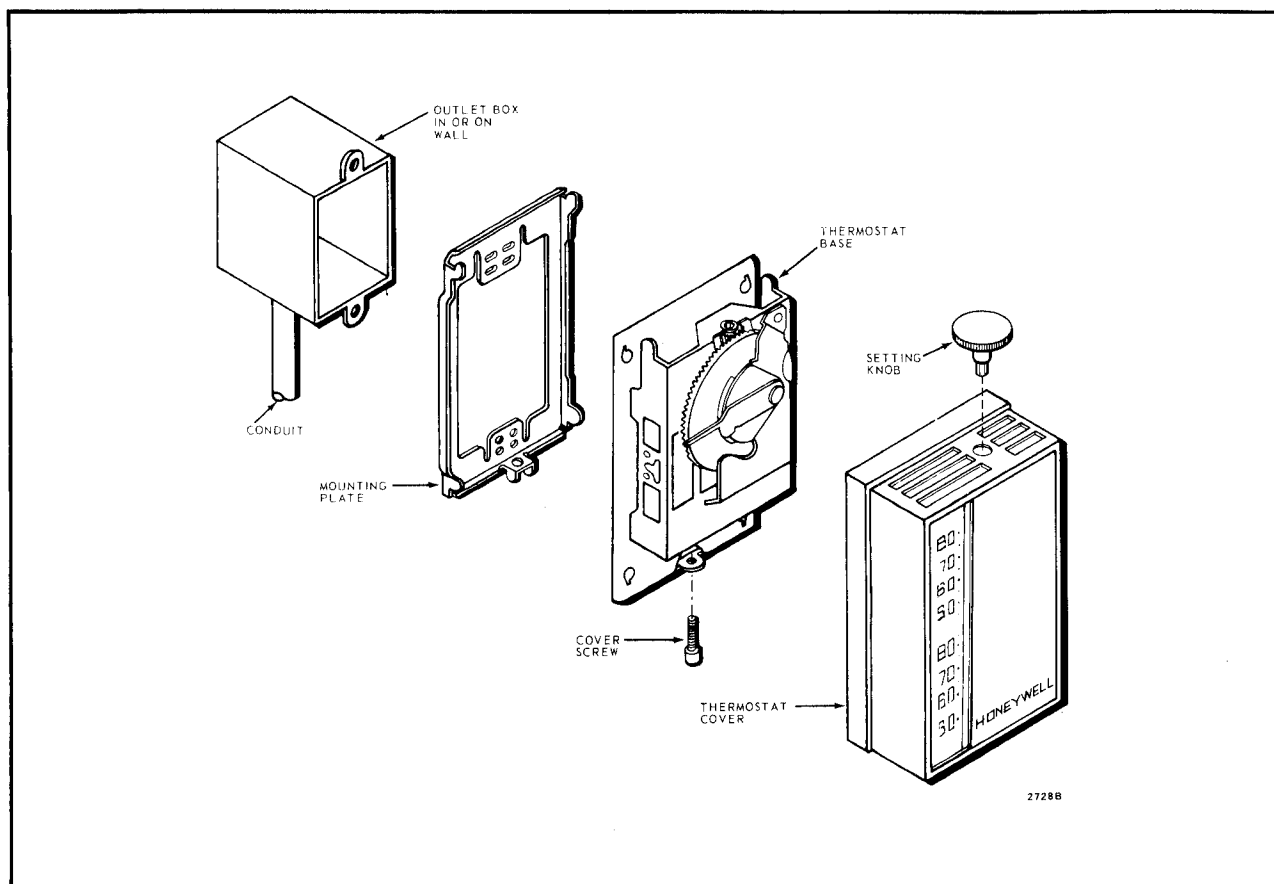

FIG. 3—MOUNTING THE THERMOSTAT TO VERTICAL OUTLET BOX.
7. Hang thermostat base on mounting plate tabs (Fig. 3).